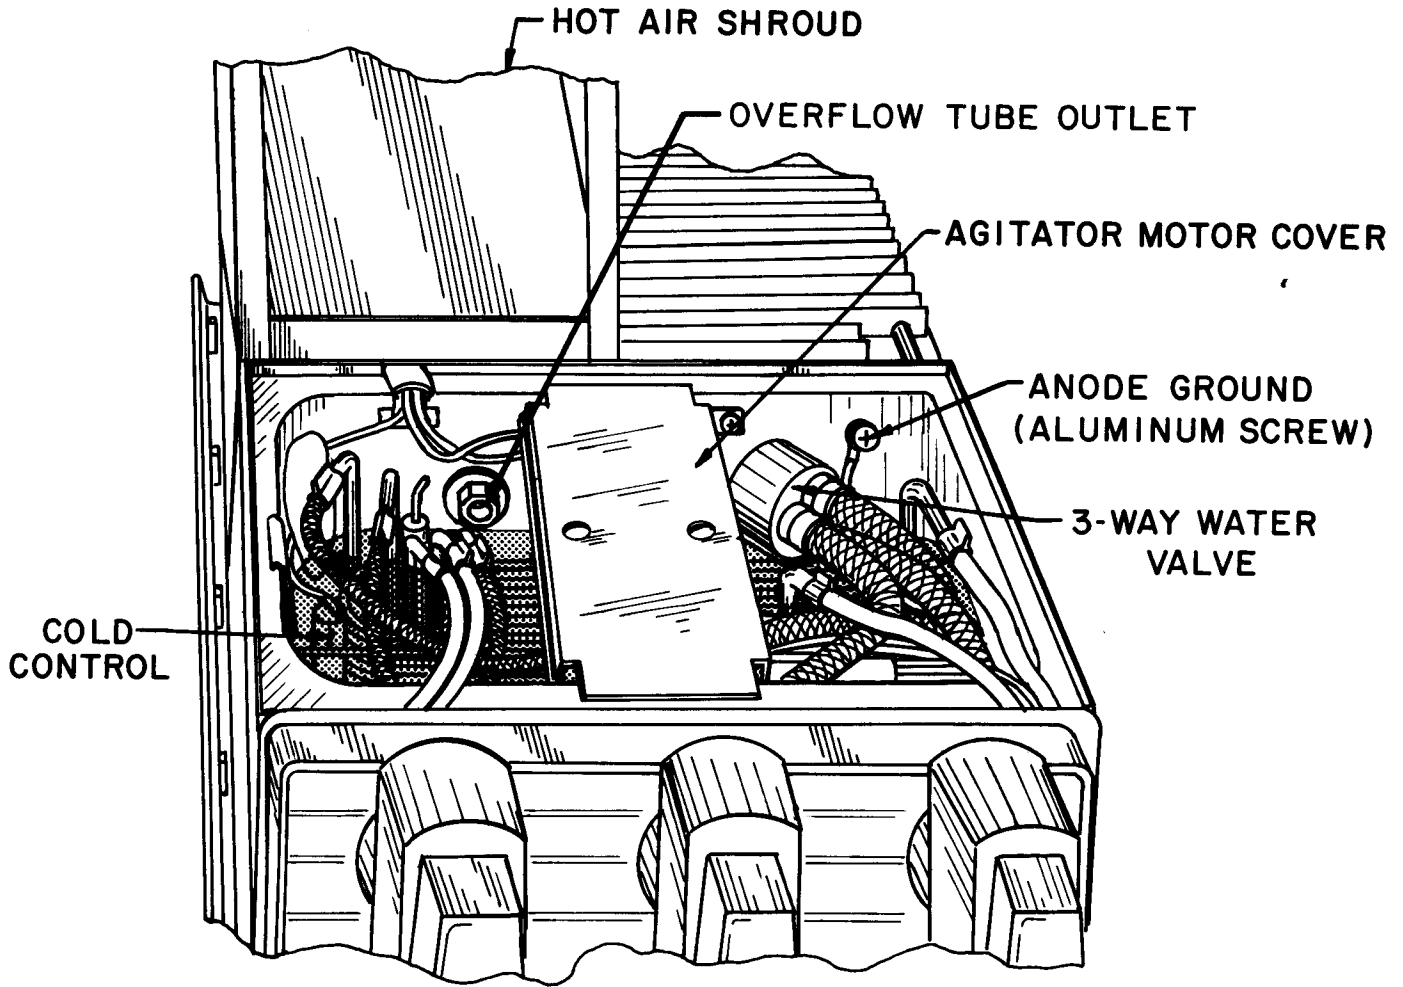

Fig. 2
- Fill ice bank to overflow tube outlet. (Fig. 2)